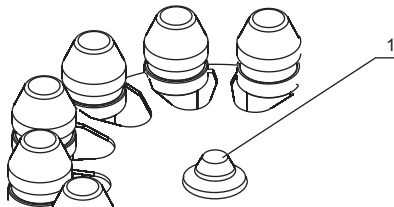

Fig.2 Rotor
- Hold the rotor with one hand and with the help of the supplied wrench (13 mm) turn fixation nut (fig.2/1) anti-clockwise to release the rotor.